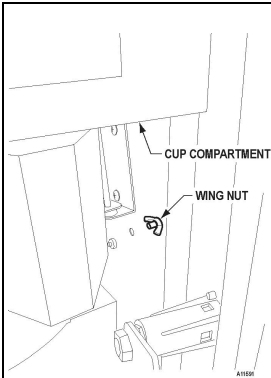
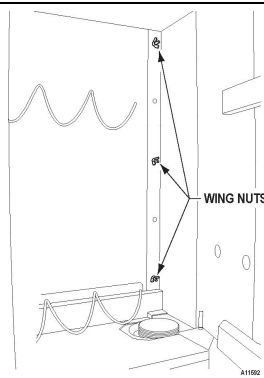

Figure 6a. Bottom Wing Nut
Figure 6b. Inside Wing Nuts
1. Remove and save the wing nut located on the right side below the cup compartment (as viewed from behind the door). See **Figure 6a**.
2. Open the cup compartment door. Remove and save the 3 wing nuts located on the right side of the cup compartment. Loosen 2 wing nuts holding the Top Cap Molding. See **Figure 6b**.
9. Reinstall and tighten the wing nuts saved from steps 1 and 2. See **Figure 6a** and **Figure 6b**.